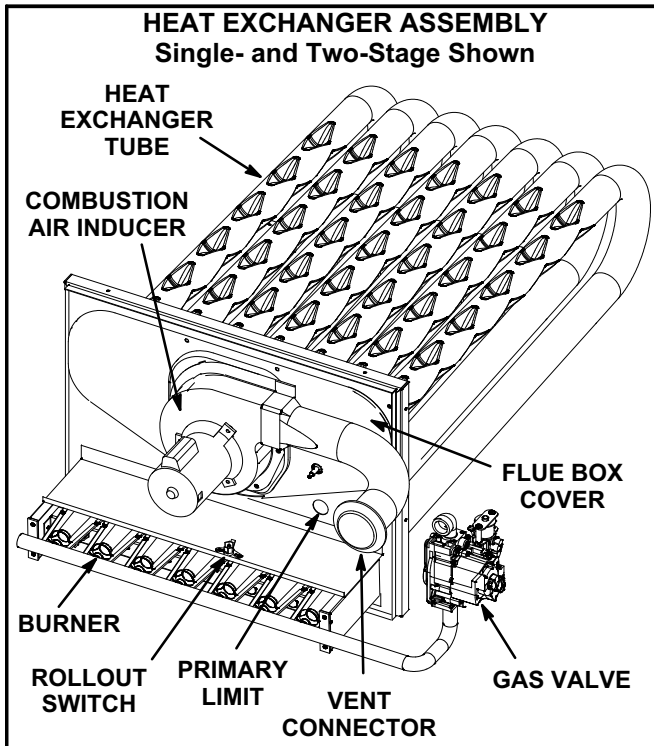

FIGURE 39
- 4- Remove and retain screws securing combustion air inducer to flue box. Remove vent connector. See figure 39.